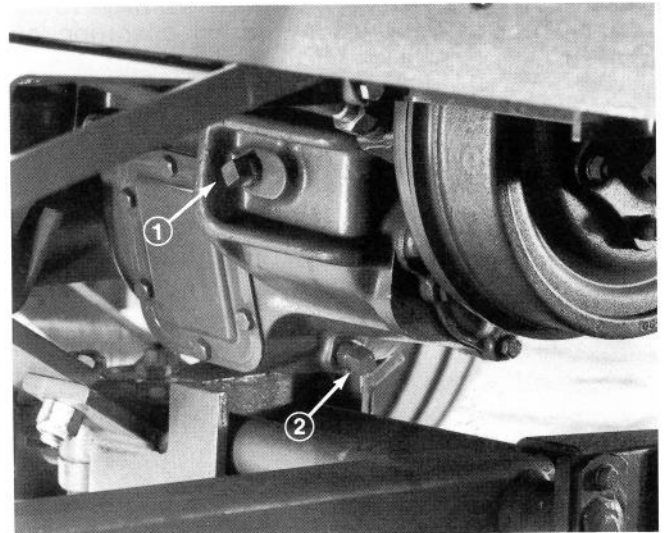

Figure 15
2. Remove the filler plug and check the fluid level (Figure 15).